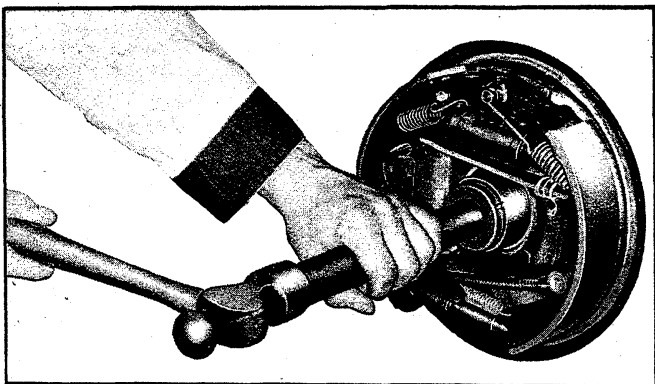

Fig. 81—Wheel Bearing and/or Oil Seal Installation
shoulder (fig. 81). To install bearing use Tool J-21491 for the Chevelle, Camaro and Chevy II light-duty axle and Tool J-21051 for all Chevrolet models and also for Chevelle, Camaro and Chevy II models with heavy-duty axle.
4. Pack cavity between the seal lips with a high melting point wheel bearing lubricant; position seal on tool (Use J-21491 for the Chevelle, Camaro and Chevy II light-duty axle and J-21051 for all Chevrolet models and also for Chevelle, Camaro and Chevy II models with heavy-duty axle) and position seal in axle housing bore, tap seal into place so that it bottoms against bearing (fig. 81).